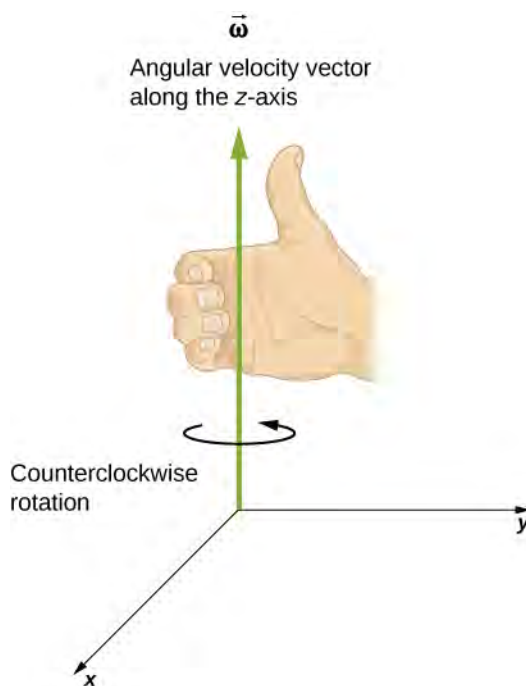

Figure 10.5 For counterclockwise rotation in the coordinate system shown, the angular velocity points in the positive z-direction by the right-hand-rule.
Up until now, we have discussed the magnitude of the angular velocity $\omega = d\theta/dt$, which is a scalar quantity—the change in angular position with respect to time. The vector $\vec{\omega}$ is the vector associated with the angular velocity and points along the axis of rotation. This is useful because when a rigid body is rotating, we want to know both the axis of rotation and the direction that the body is rotating about the axis, clockwise or counterclockwise. The angular velocity $\vec{\omega}$ gives us this information. The angular velocity $\vec{\omega}$ has a direction determined by what is called the right-hand rule. The right-hand rule is such that if the fingers of your right hand wrap counterclockwise from the x -axis (the direction in which θ increases) toward the y -axis, your thumb points in the direction of the positive z -axis (**Figure 10.5**). An angular velocity $\vec{\omega}$ that points along the positive z -axis therefore corresponds to a counterclockwise rotation, whereas an angular velocity $\vec{\omega}$ that points along the negative z -axis corresponds to a clockwise rotation.
In the same way as we defined the vector associated with angular velocity $\vec{\omega}$, we can define $\vec{\alpha}$, the vector associated with angular acceleration (Figure 10.7). If the angular velocity is along the positive z-axis, as in Figure 10.5, and $\frac{d\omega}{dt}$ is positive, then the angular acceleration $\vec{\alpha}$ is positive and points along the +z- axis. Similarly, if the angular velocity $\vec{\omega}$ is along the positive z-axis and $\frac{d\omega}{dt}$ is negative, then the angular acceleration is negative and points along the -z- axis.
- We are given the rotational sense of the turbine, which is counterclockwise in the plane of the page. Using the right hand rule (Figure 10.5), we can establish the directions of the angular velocity and acceleration vectors.